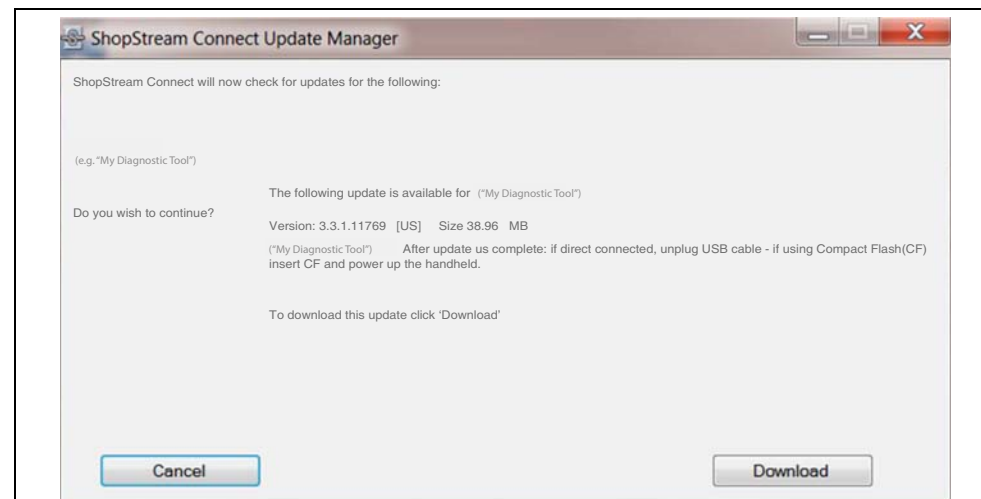

Figure 13-13
2. If service release updates are available, select **Next** to continue, then select **Download** and follow the on-screen instructions to complete the installation (Figure 13-13).